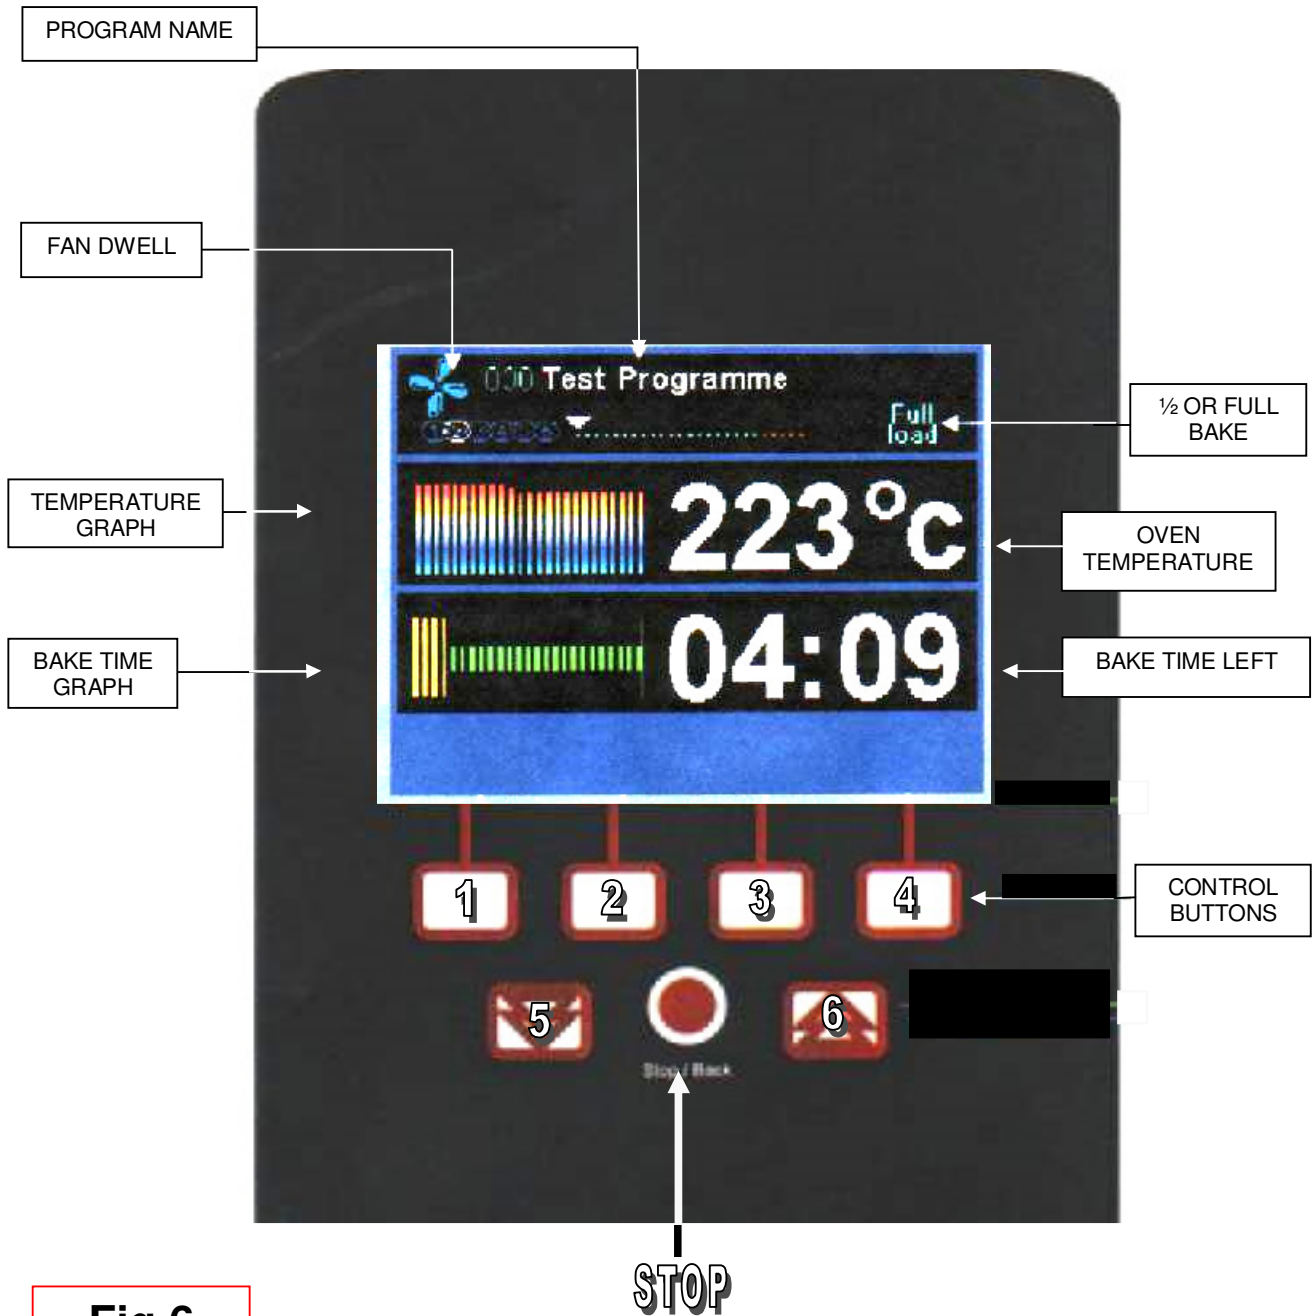

Fig 6
(5)=10 places down and **(6) = 10 places up** (see fig 6)